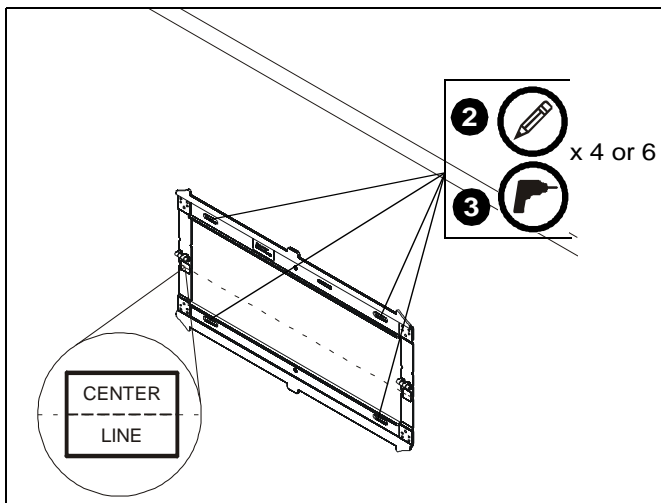

Figure 5
2. Level wall plate (A) and mark locations of pilot holes at desired mounting location. (See Figure 5)
**NOTE:** The vertical center of the display will be even with the center line indicated on the labels located directly below each hinge. Keep this in mind when determining mounting location. (See Figure 5)
3. Drill 5/16" (7.9mm) diameter pilot holes into wall at marked locations. Holes must be drilled at least 2 1/2 inches deep. (See Figure 5)